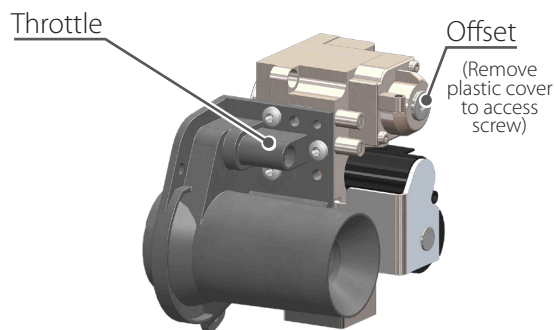

Fig. 11 - Throttle and Offset Locations
- If the CO2 level during high fire (100%) differs by more than 0.4% from the recommended combustion setting (See **Table 3**) adjust the throttle screw (see **Fig. 11**) as follows:
- If the CO2 combustion level during low fire (1%) differs by more than 0.4% from the recommended combustion setting (See **Table 3**), remove plastic cover from Offset screw (See **Fig. 11**) and adjust as follows: